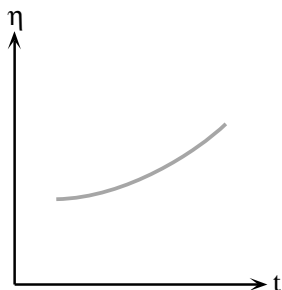

Figure 4-7
**RHEOPEXY:** This is essentially the opposite of thixotropic behavior, in that the fluid's viscosity increases with time as it is sheared at a constant rate. See Figure 4-7.